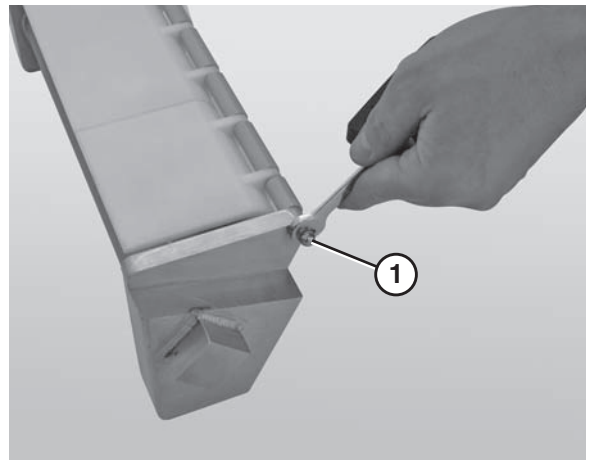

Figure 71
4. Use a 10 mm wrench to remove one of the acorn nuts (**Figure 71, item 1**) from the nose bar shaft.